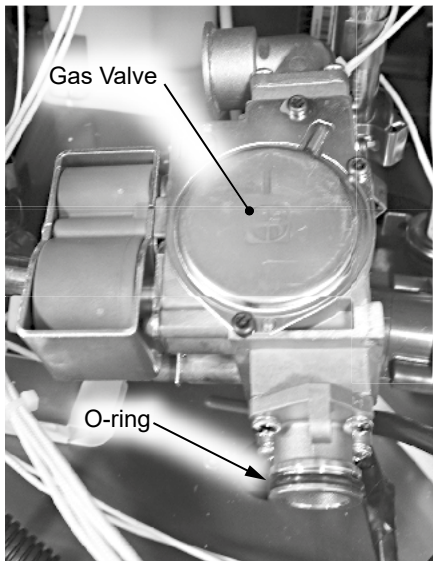

Figure 3 - O-ring replacement (one o-ring)
- 12** Locate the new gas valve o-ring, install it as shown in Figure 3.